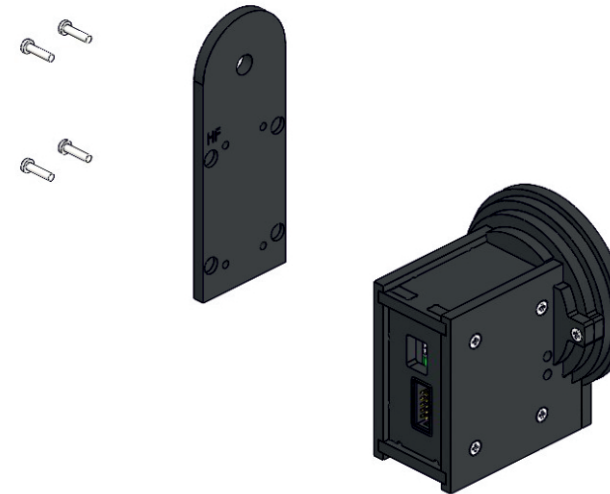

Fig. 71: Mounting the second side wall and the bracket
7) Join the other side wall with the rest of the structure. Align holes in side walls with protrusions of top and bottom plates, rear wall and rings and then make them latch. Secure the side wall using M3x10 screws (4 pcs.) Use M3x12 screws (4 pcs.) to attach the bracket to the assembled housing (when the module is to be secured to a structural section) (Fig. 71):